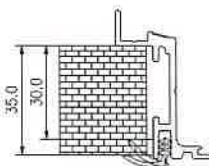

Fig. 10
- 1) When the wall thickness is 30-35mm, use rubber trim (MD-XJT-002) as in Fig. 10.